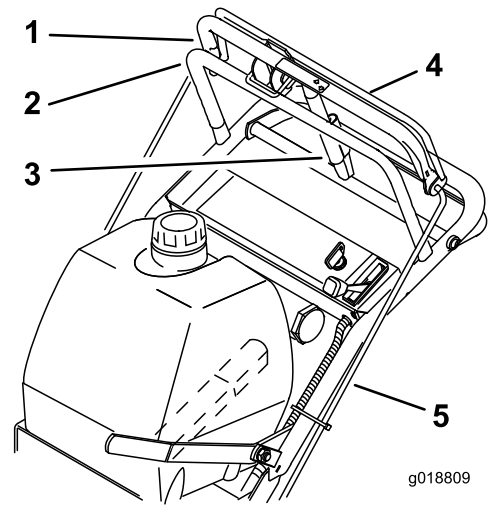

Figure 22
- Check the gap between the upper control bar and the fixed bar with the wheel drive fully engaged. The gap will need to be approximately 1 to 1-1/4 inches (25-32 mm) (Figure 22).